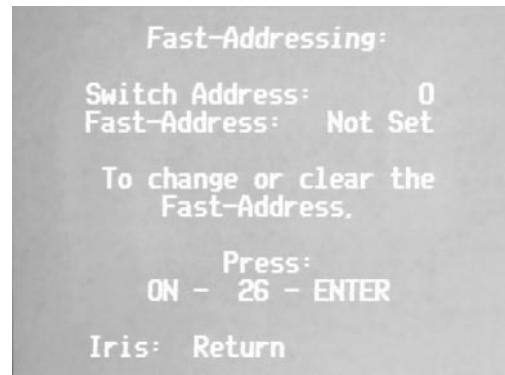

Figure FA1
2. Press ON-999-ENTER. The screen shown in FIGURE FA1 is displayed.
- Any camera without a *FastAddress* will display the screen in FIGURE FA1 when the ON-999-ENTER is used. Make sure you are viewing the camera that you want to program.